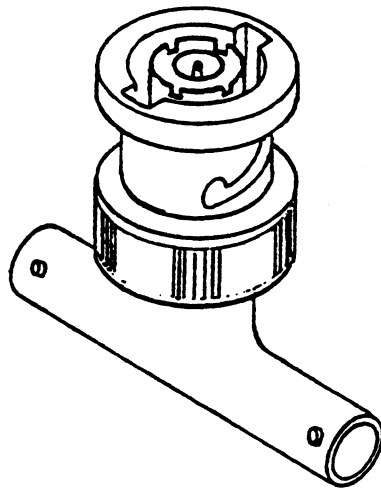

Figure 2-3. BNC "T" Fitting
- Install a "T" fitting on each cluster controller. The RG-62A/U coaxial cable leading from the previous cluster controller (or, in the case of the first cluster controller on the line, from the host computer bulkhead) attaches to one side of the "T" connector, and the cable leading to the next cluster controller attaches to the other side of the "T." Figure 2-3 illustrates a "T" fitting.